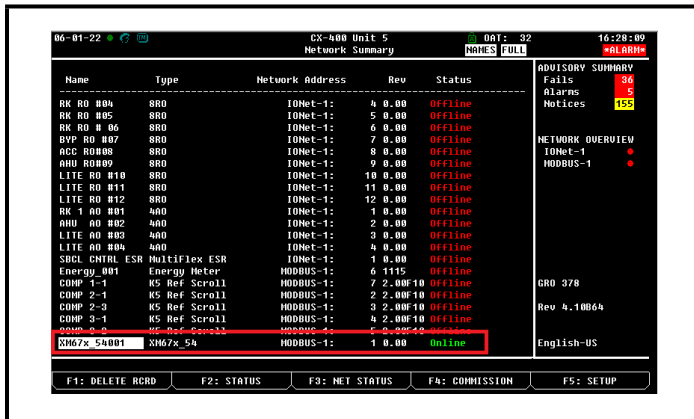

Figure 22-7 - Network Summary Screen
8. When finished, press  to return to the **Network Setup** menu, then press  - **Network Summary** (Figure 22-7). Locate the devices you set up, and look at